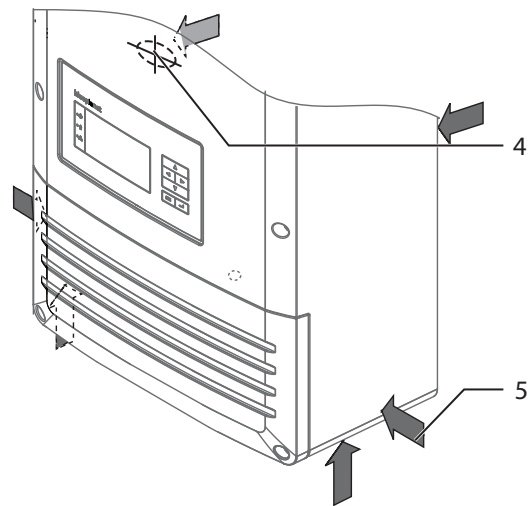

Figure 9: Lifting the inverter
- 6. Lift the inverter at the intended areas (see Figure 9).